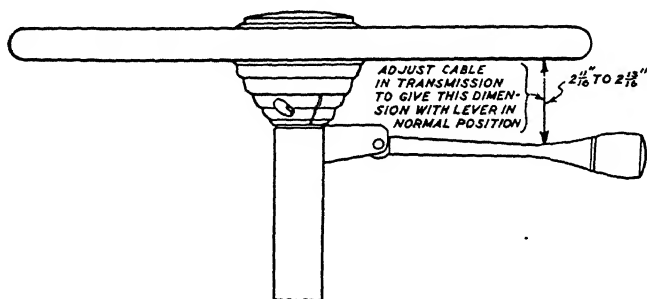

Fig. 6. Gear Shift Lever
3. Adjust to bring the gear shift lever to the position shown in Fig. 6.